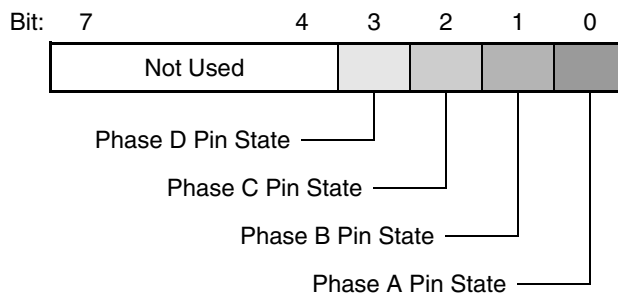

Figure 2. Encoding Sector Parameter
- Sector** - This parameter determines the position of the motion system in one of the sectors. Sector parameter value is encoded based on the input signal states; see Figure 2.